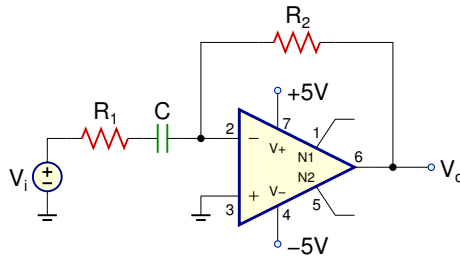

Figure 4: Pseudo differentiator circuit
Ideally, the output voltage becomes very large at very high frequencies. However, due to opamp's gain limitation at high frequencies, differentiator's gain also starts to decrease, deviating from the ideal behavior. To limit the high-frequency gain to a known value, a pseudo differentiator circuit as shown in Fig. 4 can be used.
The output voltage in Fig. 4 can be found as
1. For the first order high-pass filter in Fig. 4, derive the time-domain equation for the output in terms of the input.
1. Draw the schematics for the pseudo differentiator in Fig. 4 with the calculated component values.
1. Build the pseudo differentiator in Fig. 4 with the simulated component values.
5. For the pseudo differentiator in Fig. 4: